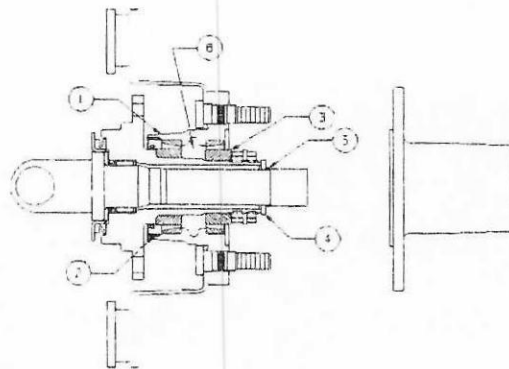

Figure 7. Bearing and seal installation.
2. Pack wheel hub inner diameter (Figure 7, Flag 6) with wheel bearing grease.
5. Install packed bearing into cup on inboard side of wheel hub. (Figure 7, Flag 1)
6. Apply additional grease around back side of installed bearing. (Figure 7, Flag 2)
7. Fill large radial seal cavity with grease. Press large radial seal into seat of inboard side of wheel hub. (Figure 7, Flag 2) Seal may protrude slightly from wheel hub.
9. Install outer bearing (Figure 7, Flag 3).
1. Place splined washer completely onto axle shaft. See Figure 7, Flag 4.
2. Place c-clip on inboard side of axle shaft splines. See Figure 7, Flag 5